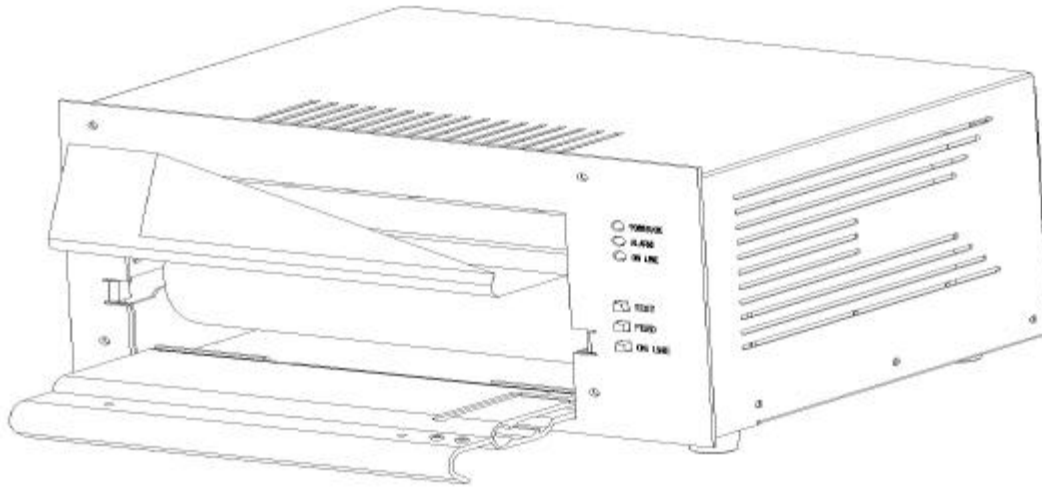

Figure 2 – Internal Roll Media Threading Path (right-hand Side View)
4.3 Loading Media (refer to Figures 2, 3 and 4)